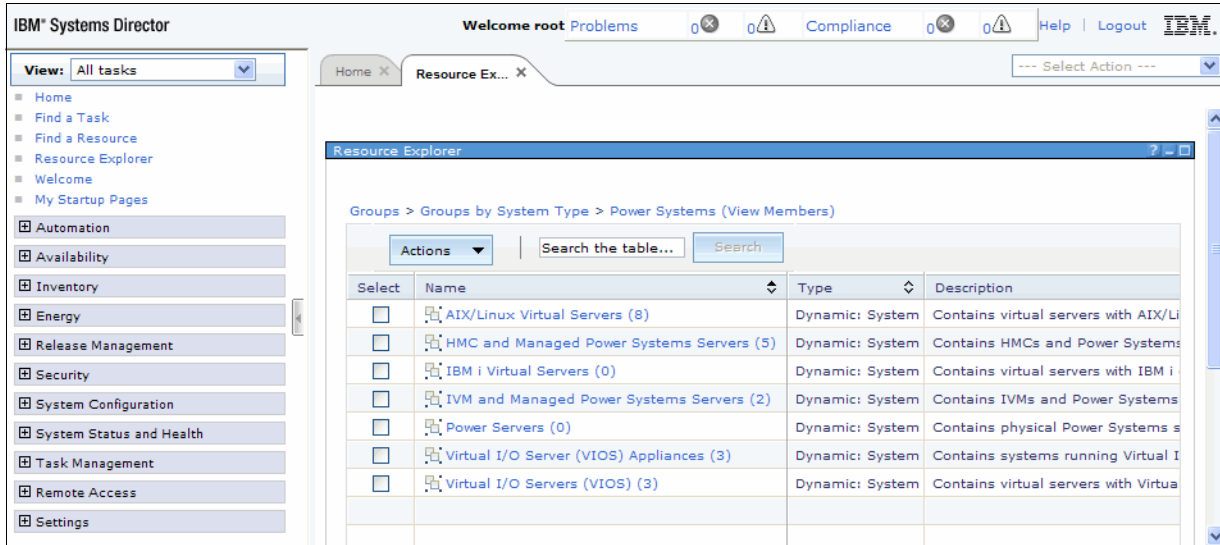

Figure 5-34 Resource Explorer: Power Systems view
- ▶ Then, select the **IVM and Managed Power Systems Servers**, as shown in Figure 5-34.